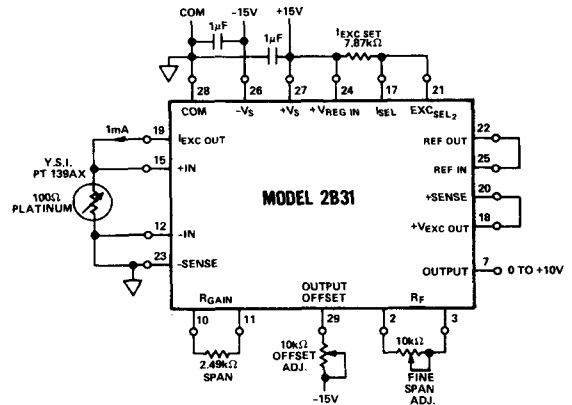

Figure 7. Platinum RTD Temperature Measurement
**Platinum RTD Temperature Measurement:** In Figure 7 model 2B31 provides complete convenient signal conditioning in a wide range (-100°C to +600°C) RTD temperature measurement system. YSI - Sostman four-wire, 100Ω platinum RTD (PT139AX) is used. The four wire sensor configuration, combined with a constant current excitation and a high input impedance offered by the 2B31, eliminates measurement errors resulting from voltage drops in the lead wires. Offsetting may be provided via the 2B31's offset terminal. The gain is set by the gain resistor for a +10V output at +600°C. Measurement resolution and repeatability is ±0.1°C.